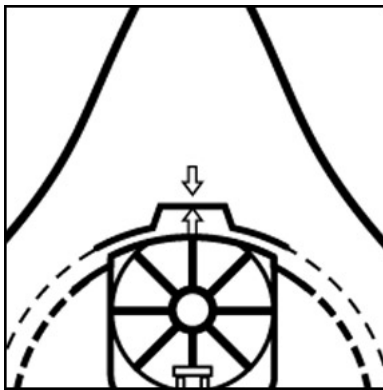

Fig. 14
6. Replace nose cup assembly onto center adapter aligning arrows. (Fig. 14)
2. To replace, position nose cup assembly onto center adapter aligning arrows. (Fig. 14)
7. Replace nose cup assembly onto center adapter aligning arrows. (Fig. 14)
8. Replace nose cup assembly onto center adapter aligning arrows. (Fig. 14)